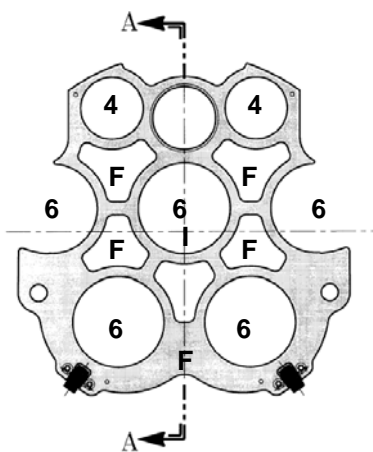

Figure 4. 5-6" & 2-4" Conduits
- D. Figure 4 Bore Spacer, **1.261"** maximum float.